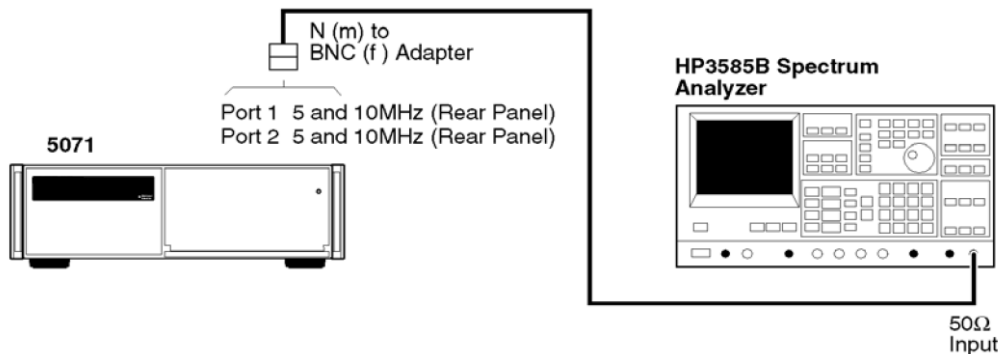

Figure A-3. Harmonic Distortion Test Setup
- 1 Connect the 5071A Port 1 to the 3585B analyzer as shown in Figure A-3. Set the 3585B for 50 Ω input impedance.